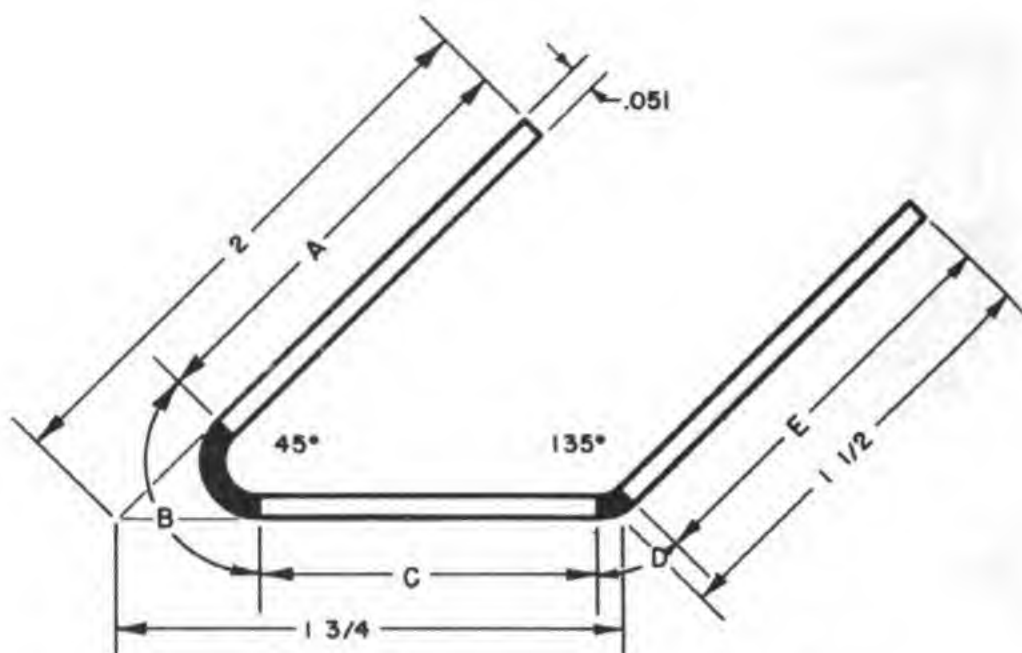

Figure 7-14.—Procedure for open- and closed-angle job.
The following outline lists the procedure for determining the flat layout for a job with open and closed angles. Figure 7-14 illustrates this procedure.
1. Determine setback (fig. 7-14).
2. Determine length of all flats (fig. 7-14).
3. Determine bend allowance for all bends (fig. 7-14).